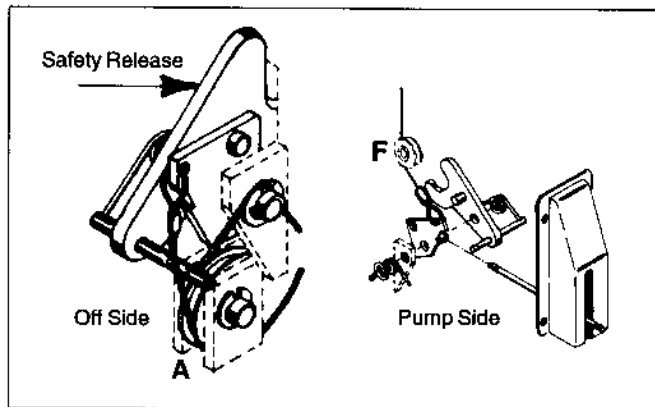

Figure 14 - Safety Release Cable Routing
- The safety release cable comes from the factory attached to the safety release on the offside post. Refer to Figure 14.